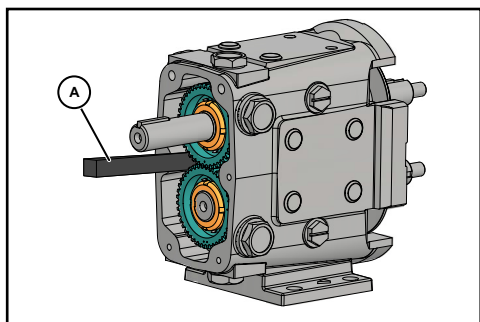

Figure 60 - Block Shaft Rotation
4. Use a wood or nylon block (Figure 60, item A) to keep the shafts from turning. If a block is not available, use rags to block the gears, or with one rotor on the shaft, block the rotor with a nylon dowel.